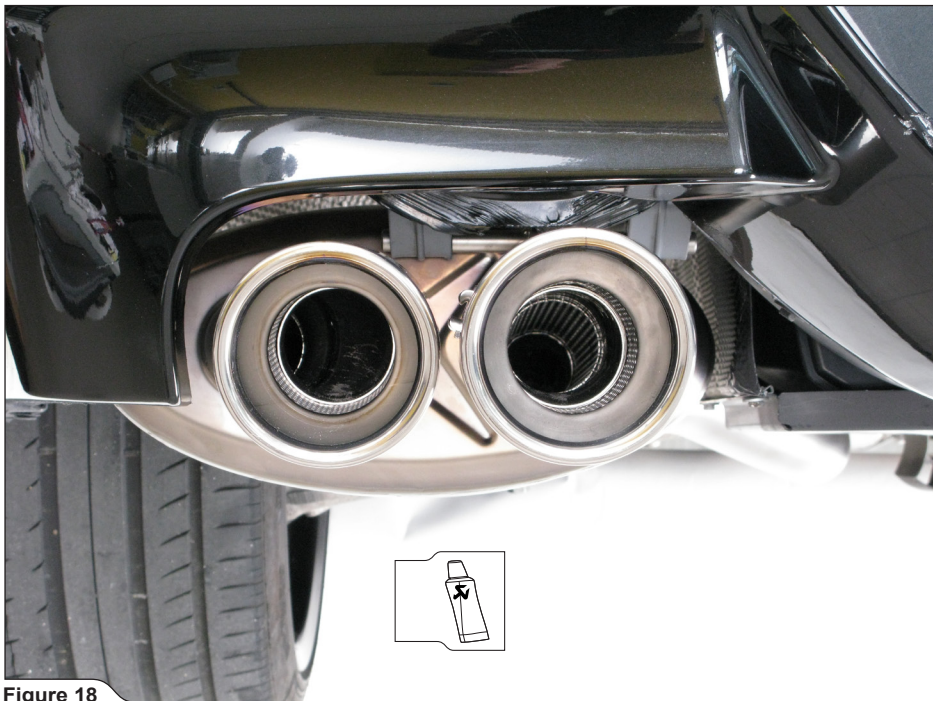

Figure 18
10. **For Slip-On and Evolution:** slide the Akrapovič Tail-Pipes onto the muffler outlets. Center them in respect to vehicle rear bumper as shown (**Figure 18**).